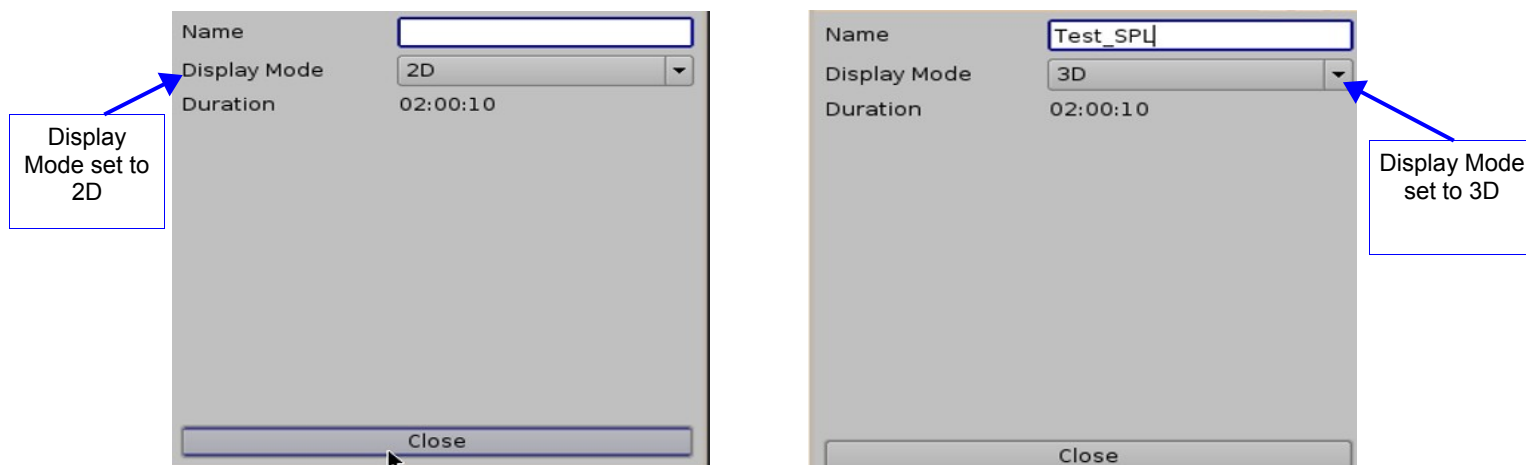

Figure 175: Show Playlist Properties 2D/3D Mode Window
- Select the 3D mode from the Display Mode drop-down window (Figure 175).